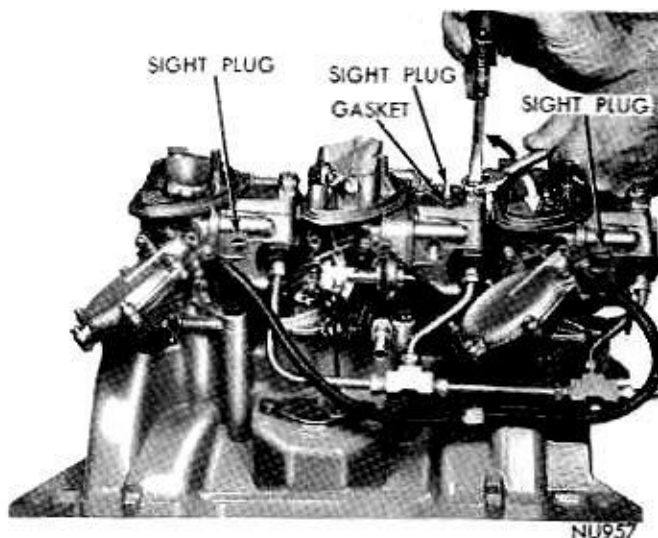

Fig. 31—Adjusting Fuel Level (On Vehicle)
- (1) To check fuel level in bowl, start engine and then remove sight plug from fuel bowl (Fig. 31).
- (2) Using a wrench and screwdriver, turn adjusting nut either up or down until fuel just dribbles out of sight hole (Fig. 31).
- (3) Reinstall sight plug and gasket and tighten securely. Check other fuel bowls in the same manner.